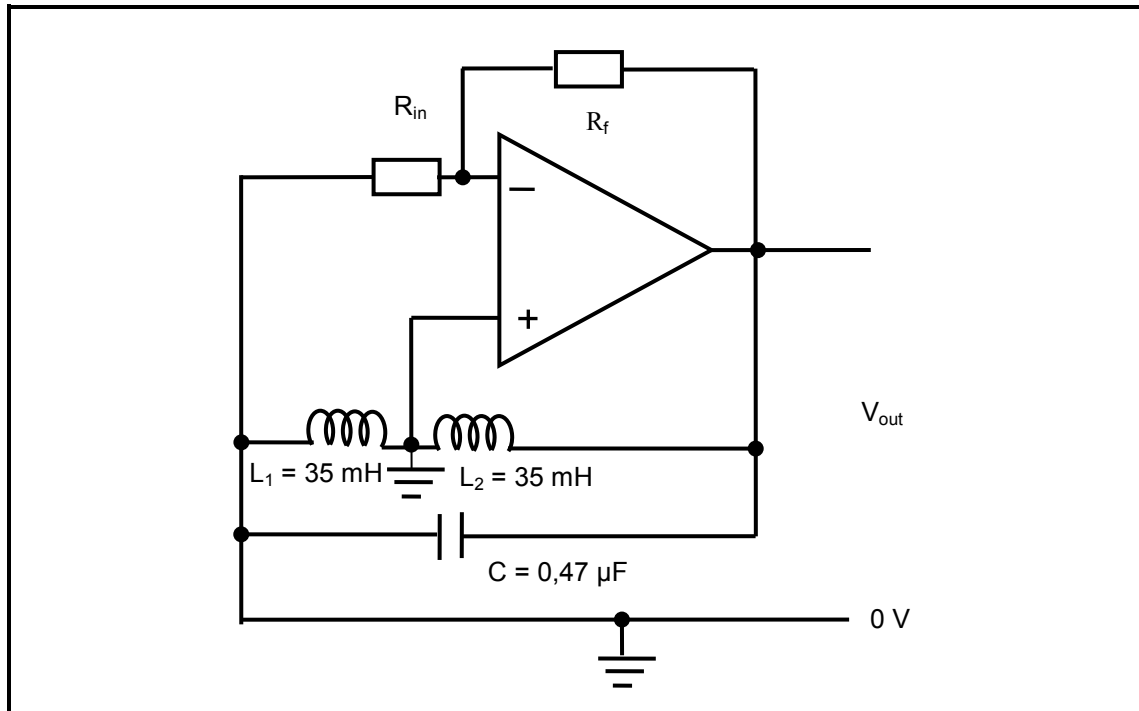

FIGURE 7.5: OSCILLATOR OPERATIONAL AMPLIFIER
7.11 FIGURE 7.5 is an operational amplifier connected in an oscillator configuration.
- 7.11.1 Identify the oscillator configuration in FIGURE 7.5. (1)